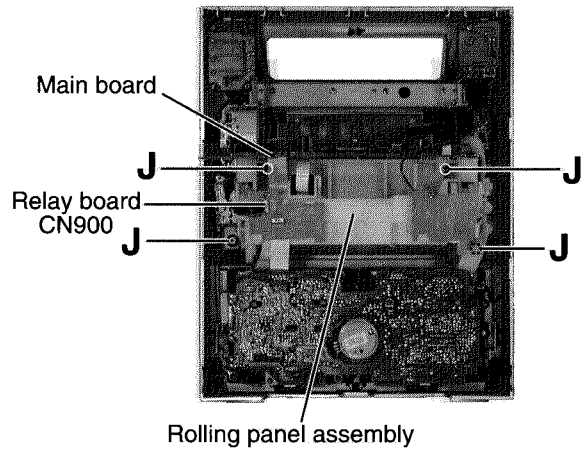

Fig.12
■ **Removing the rolling panel assembly** (See Fig.12 and 13)